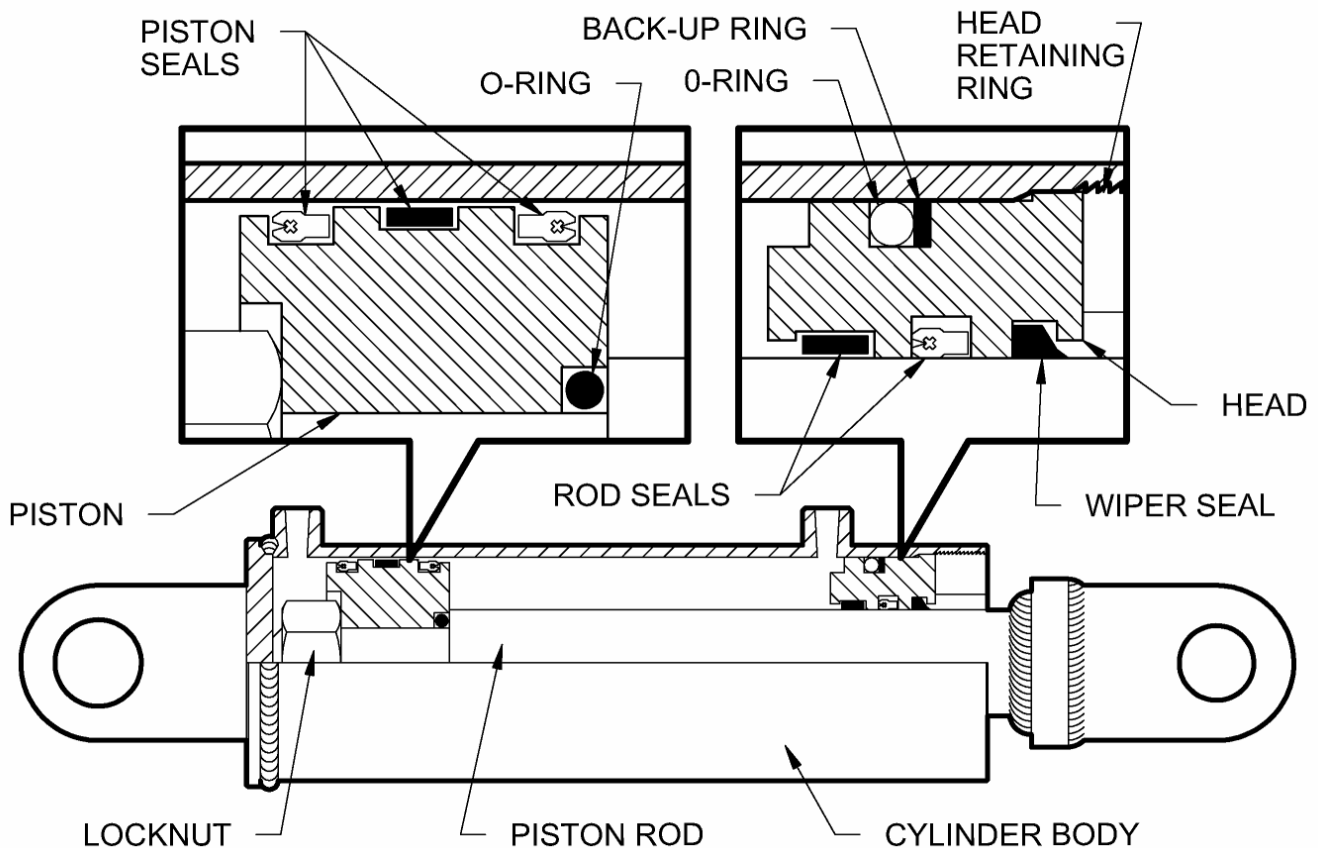

Figure 10-17
12. Install a new O-ring and back-up ring (from the seal kit) on the inside diameter of the cylinder head. Install the back-up ring on the low pressure side of the O-ring (toward the outside). Refer to Figure 10-17.
14. Install a new O-ring and back-up ring on the outside diameter of the cylinder head. The back-up ring should be on the side away from hydraulic pressure. Refer to Figure 10-17.
3. Remove the pins connecting the tilt cylinder to the carriage and to the base of the automatic cylinder.4. The internal structure of the tilt cylinder is similar to the structure of the layback cylinder. Refer to the Layback Cylinder repair instructions and Figure 10-17 and torque the piston nut according to Table i-1 - Bolt and Cap Screw Torque Specifications.